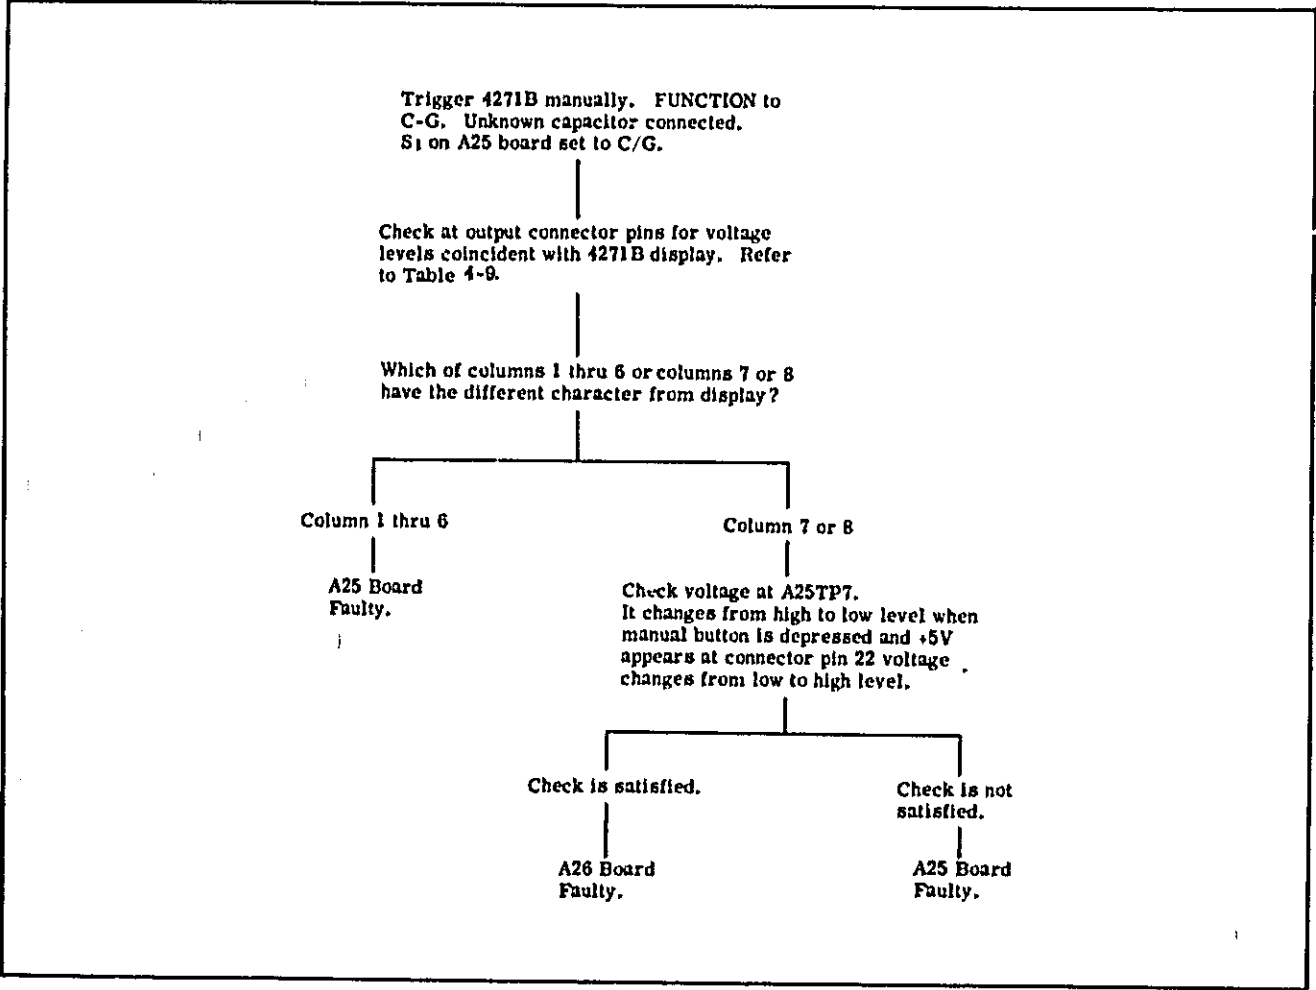

Figure 8-29 Troubleshooting Tree (without Digital Recorder).
- b. If Digital Recorder is not connected, troubleshoot as shown in Figure 8-29.